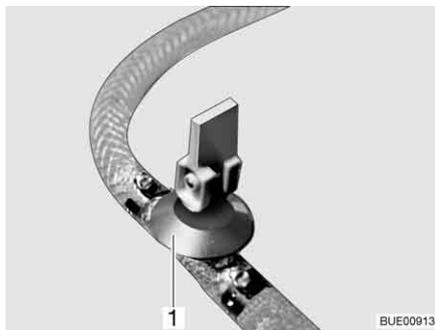
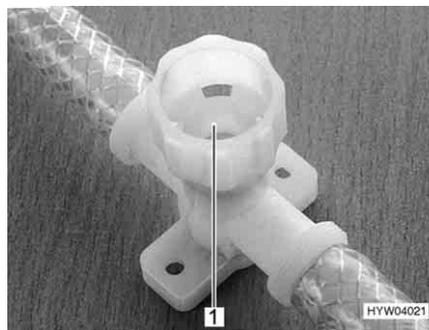

Fig. 242 Drain cock (with rocking lever)
Fig. 243 Drain cock (with twist cap)
- Open all drain cocks. To do this, position the drain cock's rocking lever (Fig. 242, 1) vertically or turn the drain cock's cap (Fig. 243, 1) in an anti-clockwise direction.